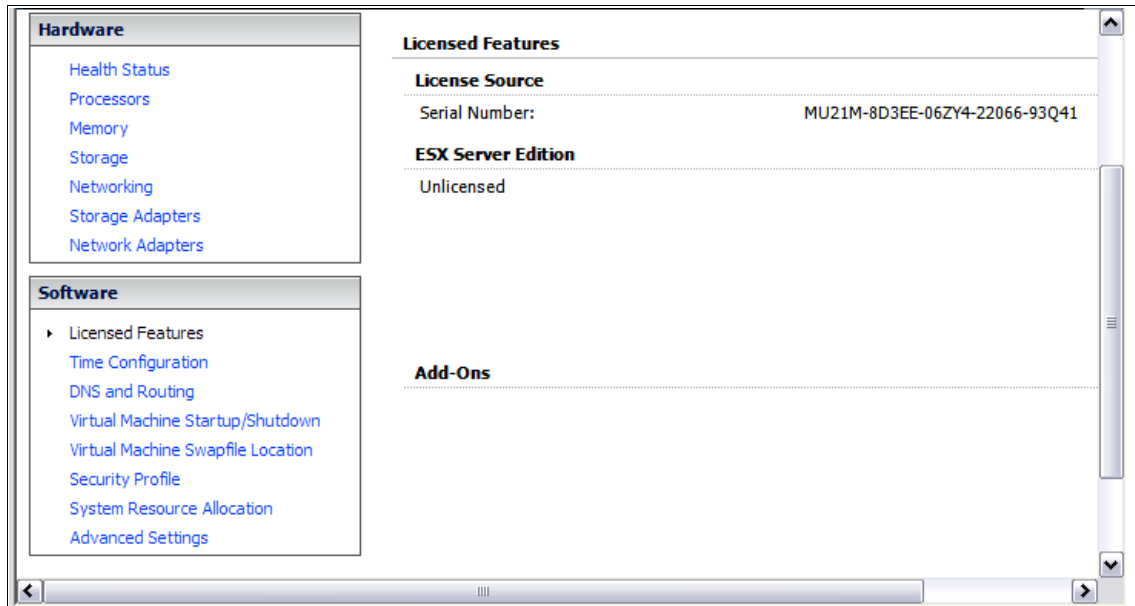

Figure 5-24 Example of Serial Number license for ESXi
Click **Browse datastores in this host's inventory** link as shown in Figure 5-24 on page 277.
12. ESXi has an ESXi Edition license (serial number) with limited hypervisor management features. See Figure 5-24 on page 277. Perform one of the following actions: